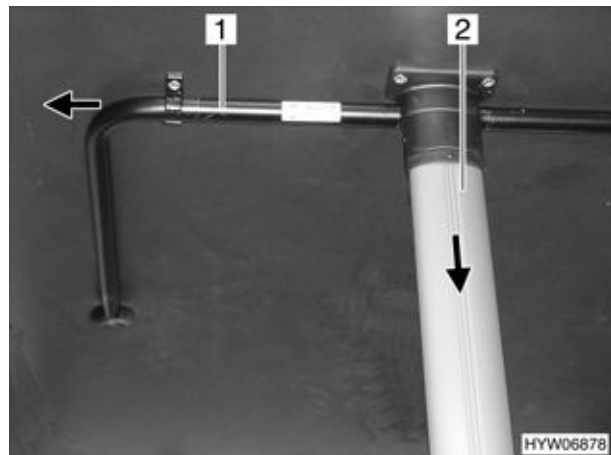

Fig. 61 Suspension table (variant 2)
- Push the support (Fig. 61,1) in the direction of the arrow, and fold it out.
- Push the table leg (Fig. 61,2) in the direction of the arrow, and fold it in.